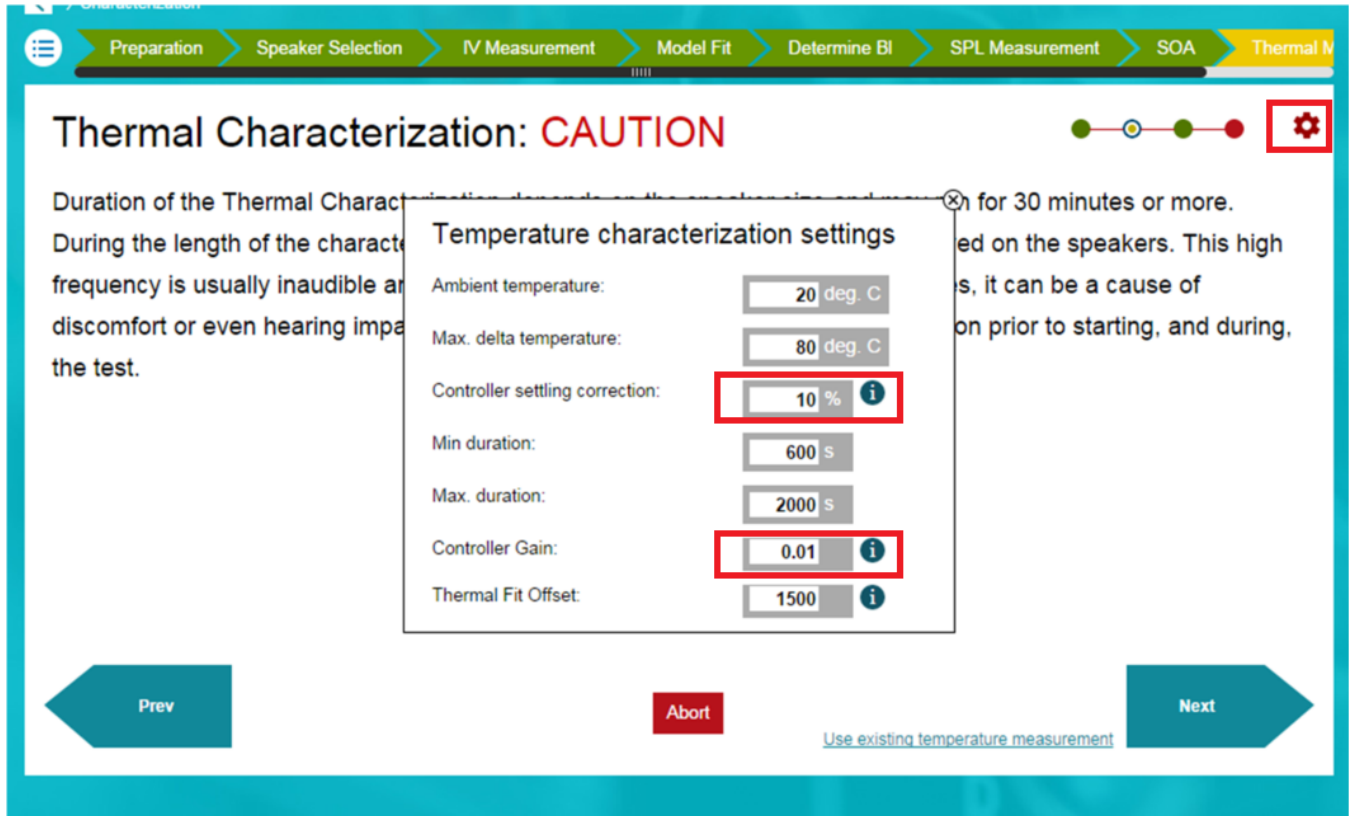

Figure 12. Thermal Characterization Step Settings
- For larger speakers, the Controller settling correction and controller gain may need to be increased (seen in Figure 12). For example, for speakers with a power rating of 1 W, use a controller gain of 0.01, and for speakers with power rating between 2 W to 3 W, change the controller gain to 0.03.